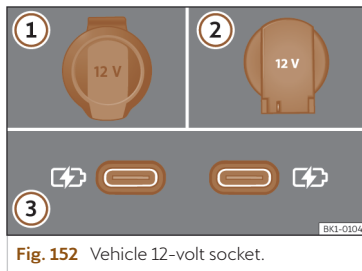

Fig. 152 Vehicle 12-volt socket.
>>> Fig. 152
Depending on the equipment and the country, the vehicle may also have USB ports **exclusively for charging or as a power socket** >>> Fig. 152 ③.